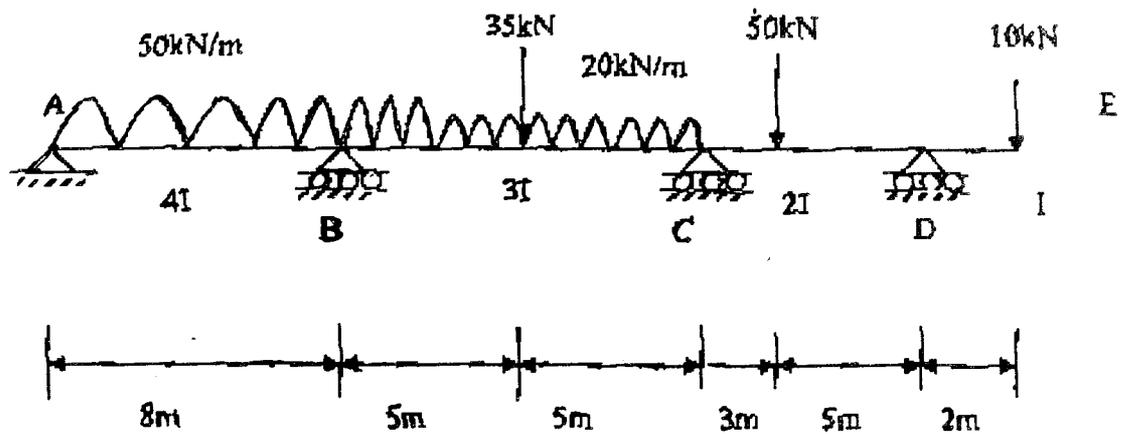

Fig. 15(a)
15. (a) Analyse the continuous beam shown in figure 15(a) by moment distribution method and draw the BMD.